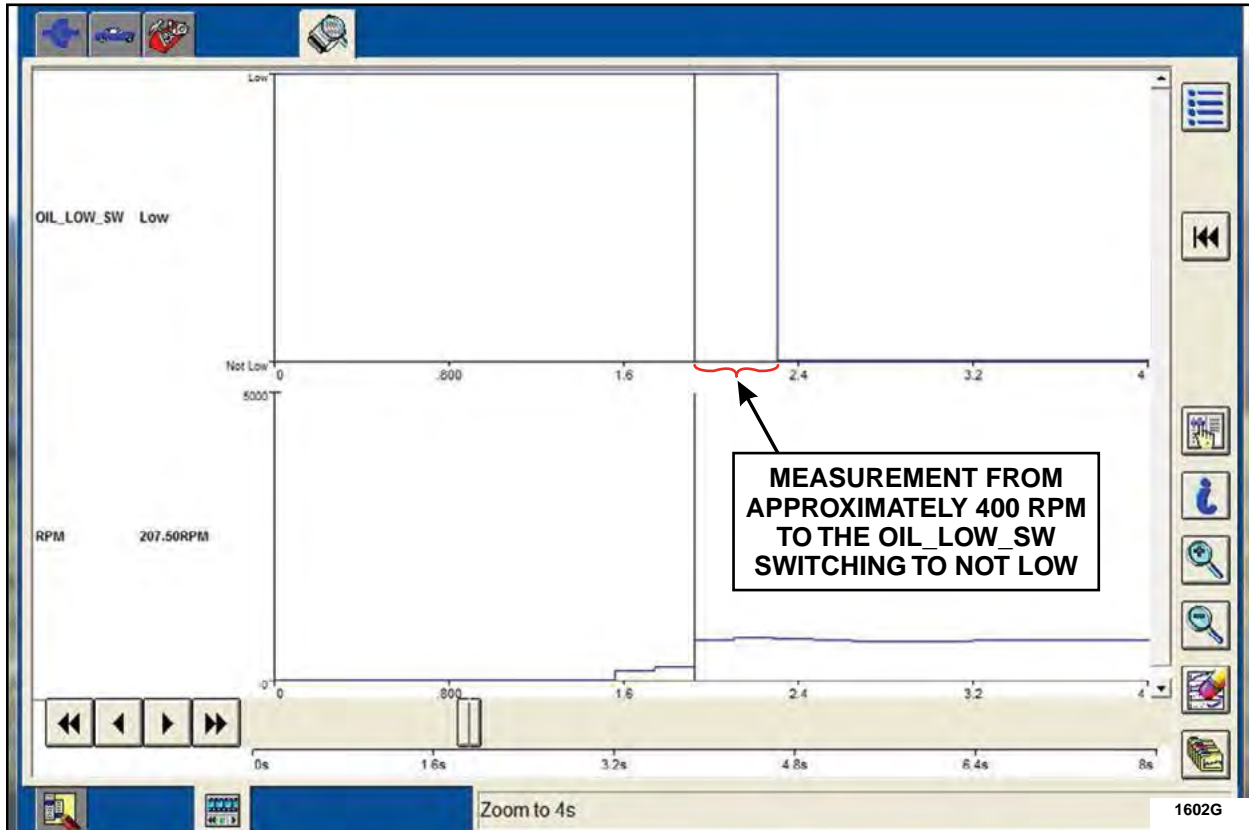

FIGURE 8
10. View the IDS recording to measure the time it takes the OIL_LOW_SW PID to change from "Low" to "Not Low". Measurement of the time it takes to change from OIL_LOW_SW to "Not Low" should begin at approximately 400 RPM. See Figure 8.